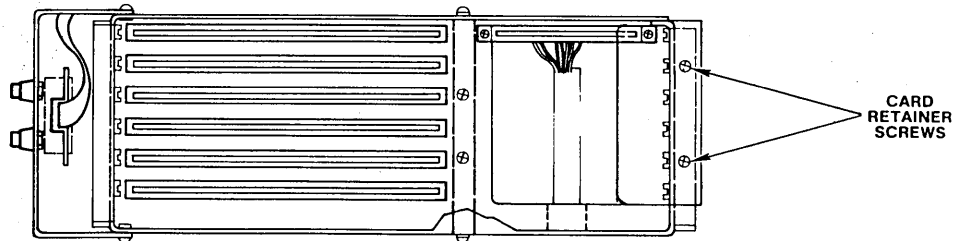

Figure 4-11. Card Cage Board Clamp Retaining Screw Locations
8. Remove the card retainer. (Refer to Figure 4-11.)